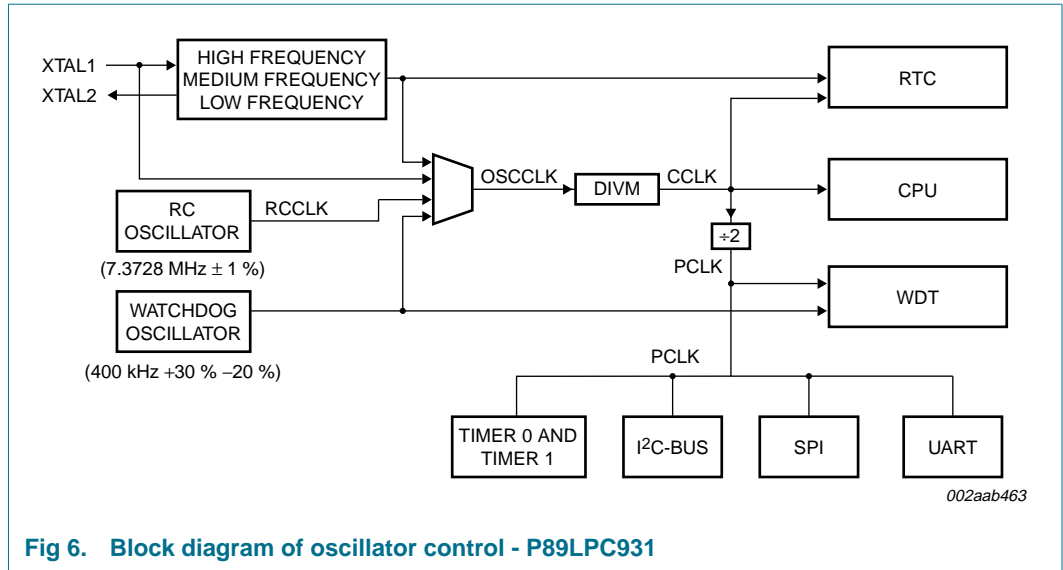

Fig 6. Block diagram of oscillator control - P89LPC931
**OSCCLK** — Input to the DIVM clock divider. OSCCLK is selected from one of four clock sources (see Figure 6) and can also be optionally divided to a slower frequency (see Section 7.8 “CCLK modification: DIVM register”).